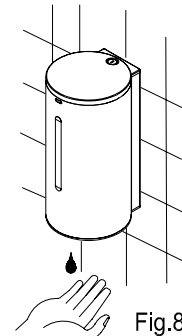

Fig.8
2. If you need more soap, repeat step 1 a few times, waiting at least 1 sec before you replace your hand under the unit. Do not scoop soap from the nozzle as this may lead to damage. (Fig. 8)